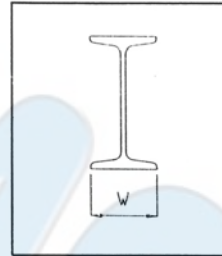

FIGURE 1
1. Measure I-beam W-dimension.(FIGURE 1)